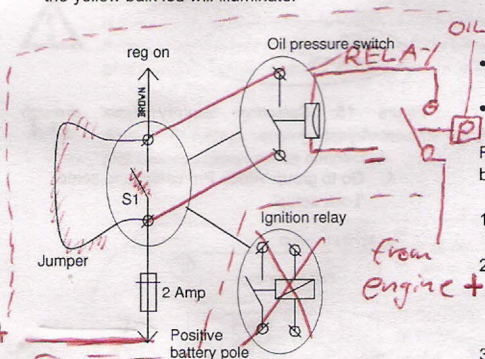

Figure 14: Jumper across switch S1
- 3 Energize the [reg on] terminal by either turning on the ignition switch (DO NOT START THE ENGINE) or by putting a jumper across switch S1 (see figure 14). Check whether the 3 yellow LED's start to blink. After approx. 10 seconds the yellow bulk led will illuminate.